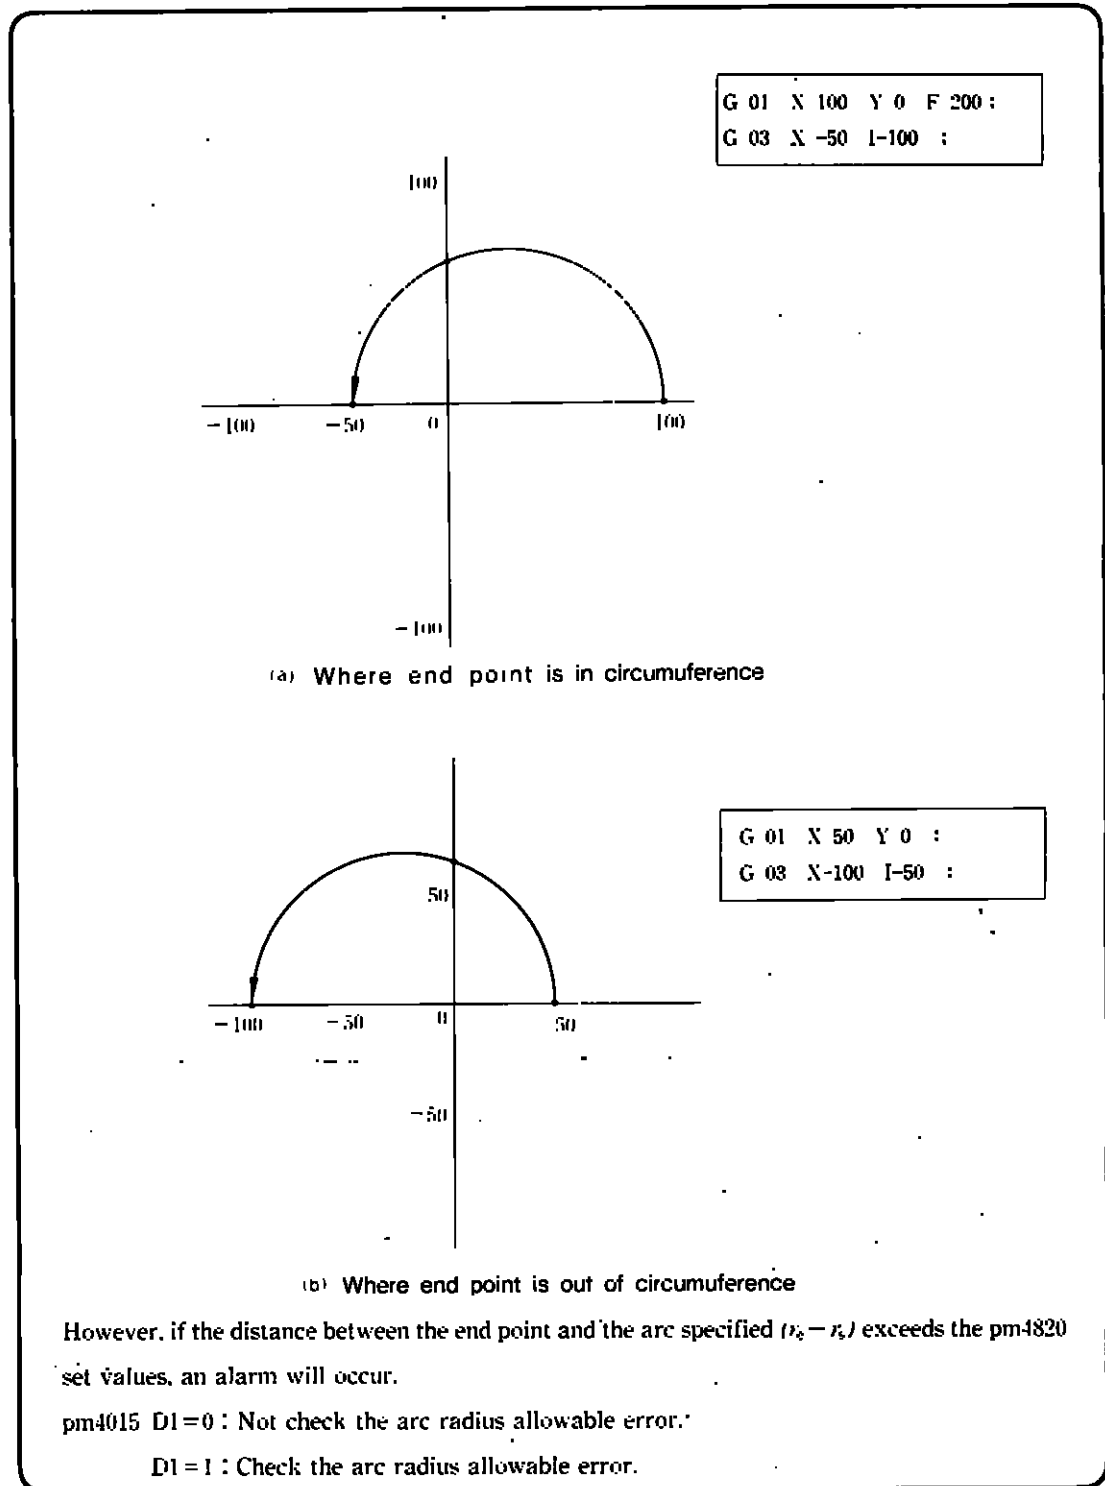

Fig 2.4.8
3. Figure 2.4.8 shows motions when the end point is not on the circumference: